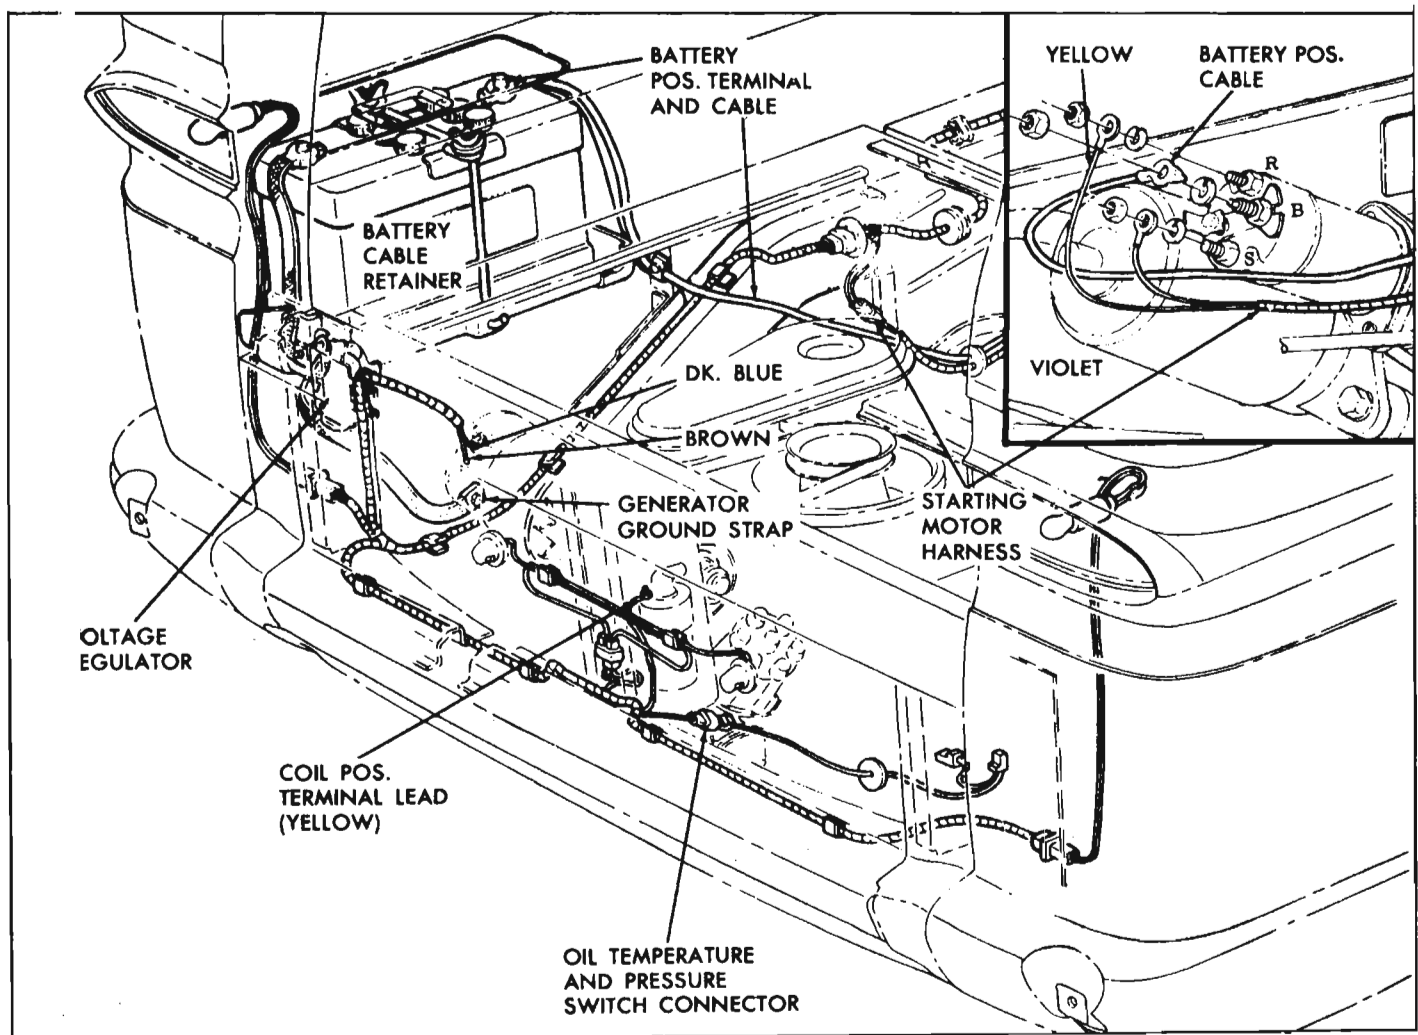

Fig. 6-20—Electrical Connections—1200 Series Vehicles
- On all 1200 Series vehicles, the electrical disconnections (or connections) must be made in order to remove or install the power train (fig. 6-20).